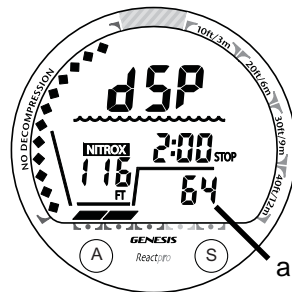

Fig. 37 - DS Preview
- > To access the Preview screen while viewing the No Deco Main screen, depress the A (left) button for 2 seconds. Information displayed includes (Fig. 37) -